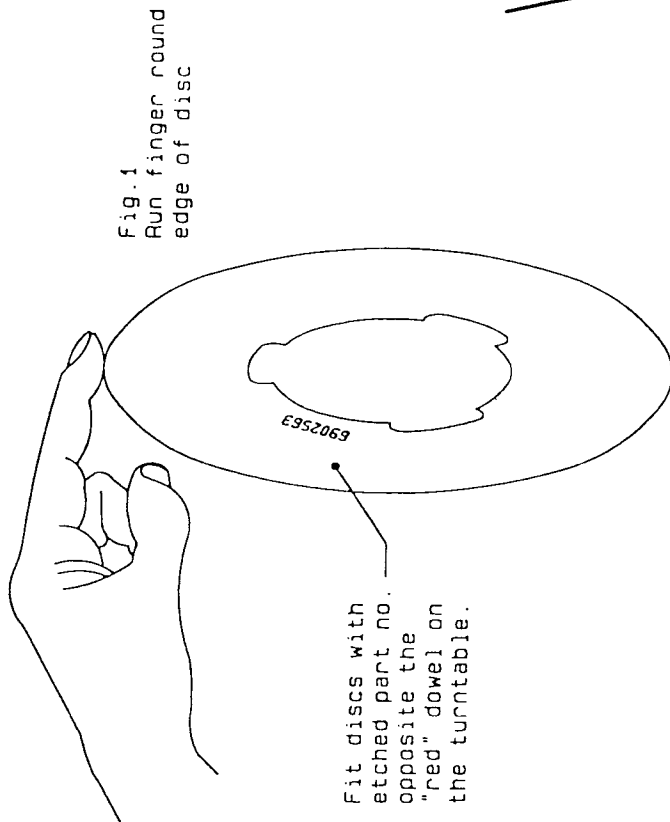

Fig.1
2. Run a finger round the edge of discs (Fig.1) which should be completely smooth. Roughness indicates "under etching". Discs with seed holes of 0.8mm diameter and above should, if under etched, have the edge smoothed off with a fine abrasive stone. Those with holes smaller than 0.8mm should be discarded.
- Mark the seed discs so they remain with their respective units, and always fit them with the etched part number opposite the "red" dowel on the unit turntable. (Fig.1)